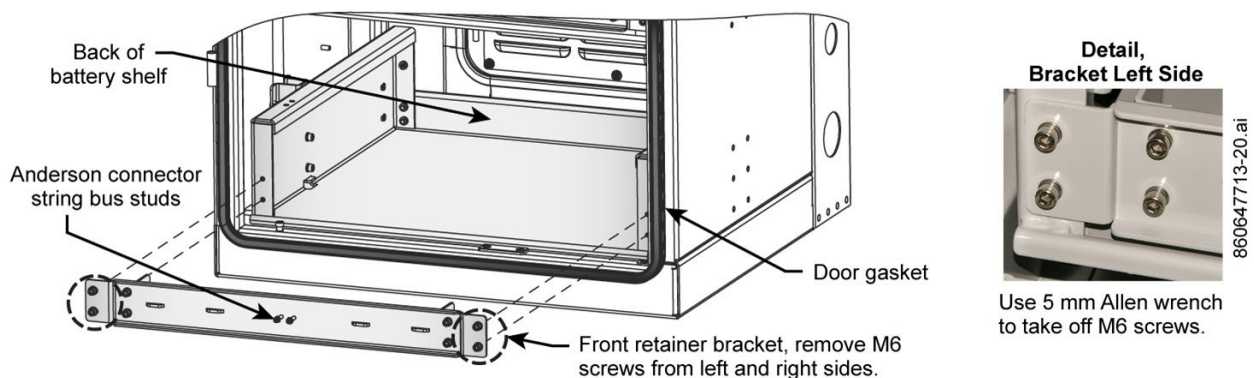
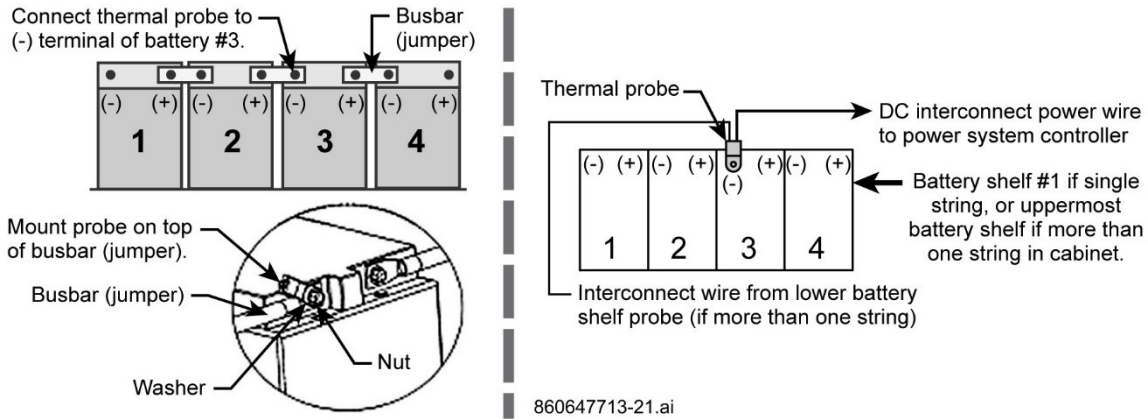
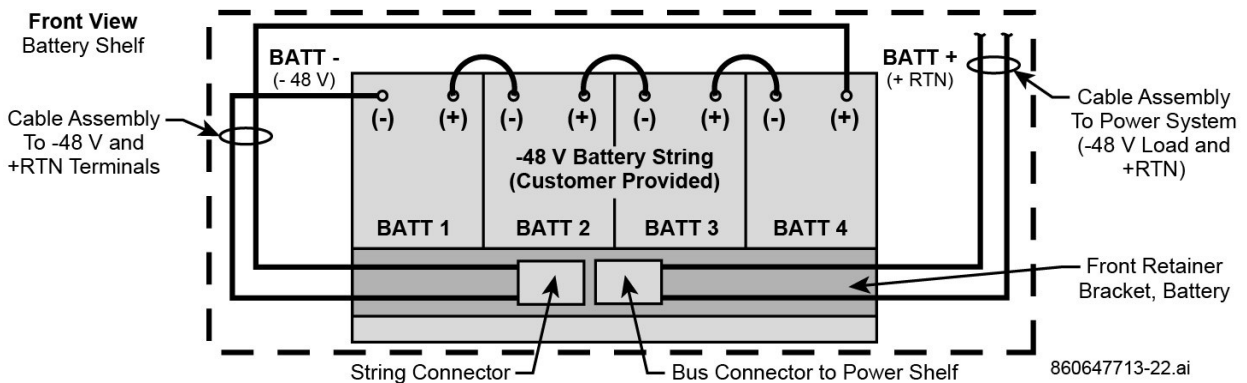
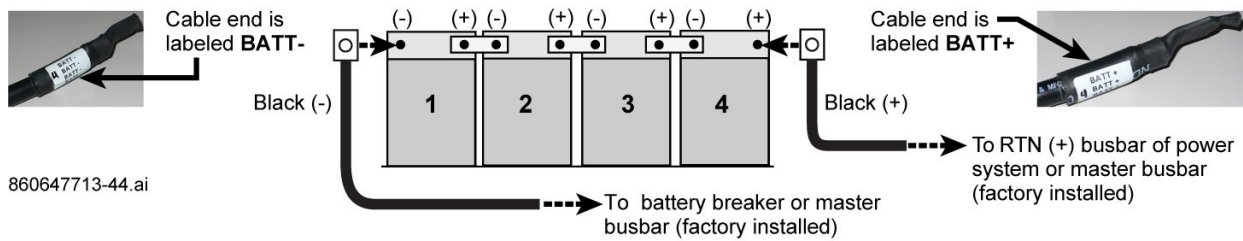

Figure 41. Front Battery Retainer Bracket Removal, VRLA Installation
Figure 42. Example of Battery Busbar and Thermal Probe Connections
Figure 43. Battery String Cable Connection, Example Using Anderson Connectors
Figure 44. Battery String Cable Connections, Example with Lugs
3. Remove the battery front retainer bracket, Figure 41.
Note: If cabinet configuration uses Anderson connectors, remove string bus connector from bracket and retain hardware for reinstallation; Figure 41, Figure 42. For standard lug connection to +RTN and -48 V terminals (Figure 44), set cables clear of batteries and do not remove protective covers until ready to connect.
5. Cover the door gasket on the lower door flange to protect it from any damage, Figure 41.
4. Place busbars (+ to -) between batteries #1 and #2, #2 and #3, #3 and #4 per Figure 42.
5. Install a thermal probe to the negative terminal of battery #3 for the string, Figure 42.
Note: Seat thermal probe between busbar, flat washer, and nut of per Figure 42. Refer to the SD if installing more than one string of batteries.
8. Locate battery cable marked **BATT+**. Remove protective lug cover and connect it to positive (+RTN) terminal of right-most battery per Figure 43 or Figure 44.
9. Locate battery cable marked **BATT-**. Remove protective lug cover and connect it to negative (-48V) terminal of left-most battery per Figure 43 or Figure 44.
11. Reinstall the battery front retainer bracket on each shelf, Figure 41.
12. If using Anderson connectors: Fasten string bus connector (to power system) onto retainer bracket per Figure 43; then fasten battery string connector to battery string bus connector.